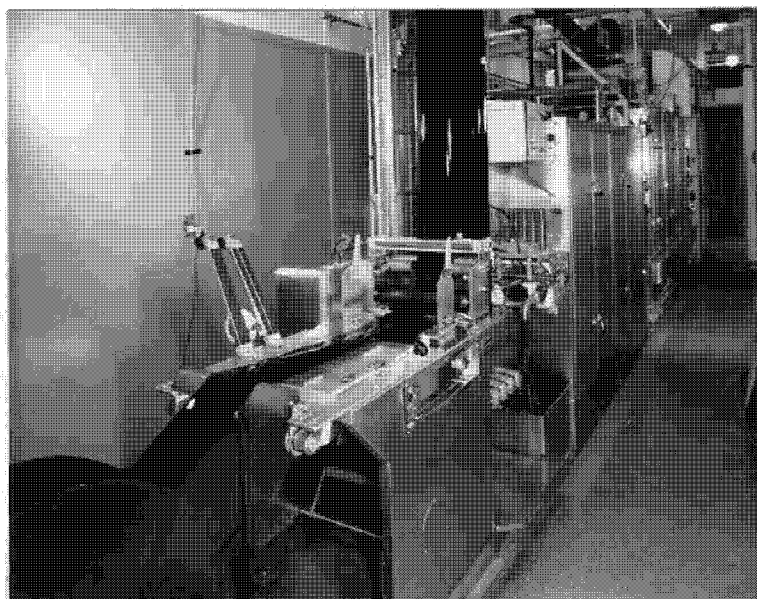

Figure 62
- Figure 62 - Yardleigh Film Processor